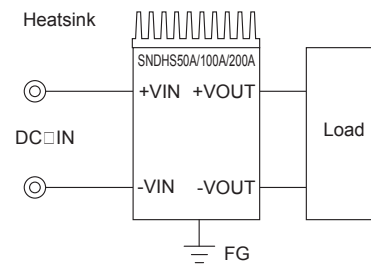
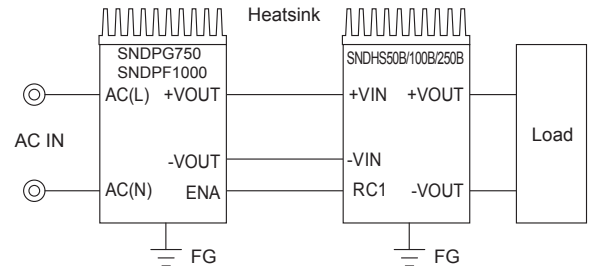

Fig.2.1 Connection for standard use
Fig.2.2 Connection 1 for standard use
■ In order to use the power supply, it is necessary to wire as shown in Fig.2.1, Fig.2.2.